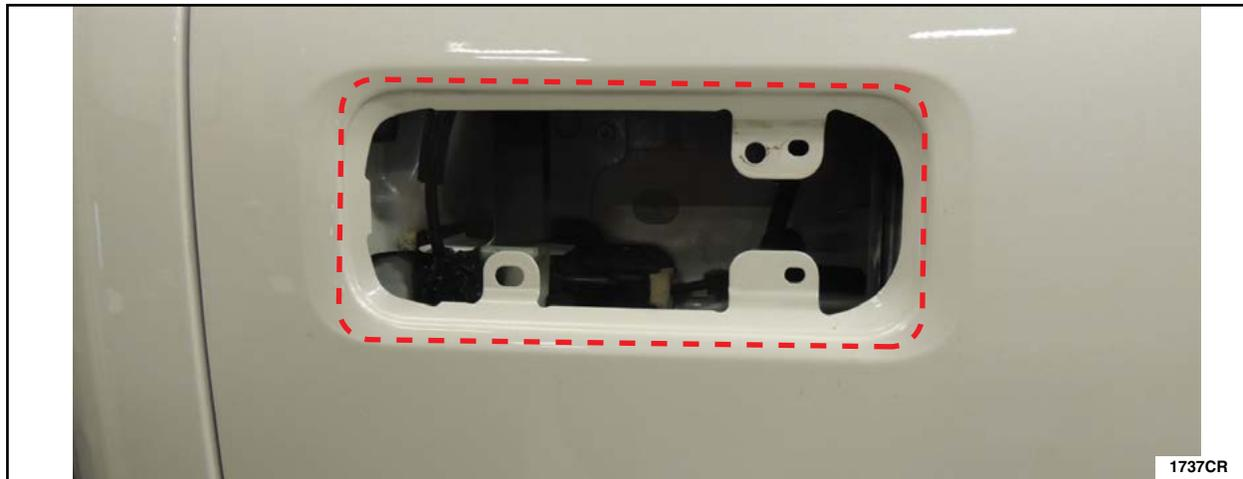

FIGURE 93
19. Using a clean shop towel and isopropyl alcohol, clean inside the dotted lines on the mating surface area of the exterior door handle opening. See Figure 93.